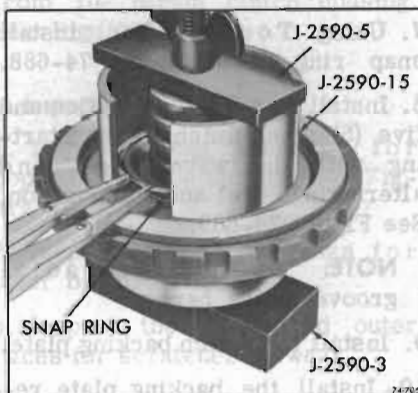

Figure 74-706
2. Using Clutch Compressor J-2590, compress the spring retainer and remove the snap ring. See Figure 74-706.